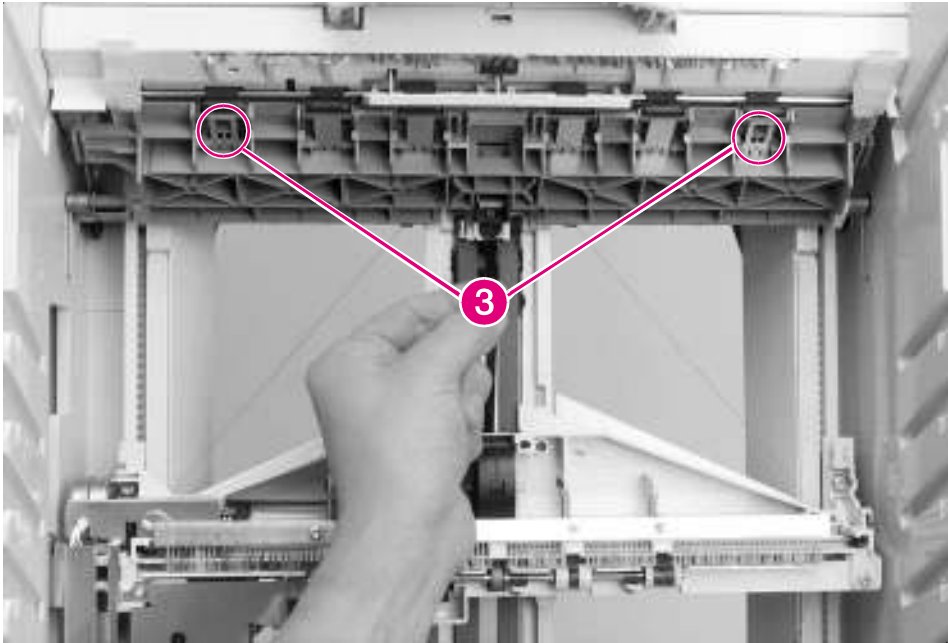

Figure 6-168 8-bin Mailbox Anticurl Strings (2 of 2)
- 5 Release the upper ends of the Anticurl Strings from the Jam Access Door by pushing the retaining tabs that secure the strings to the Jam Access Door (Figure 6-168, callout 3).